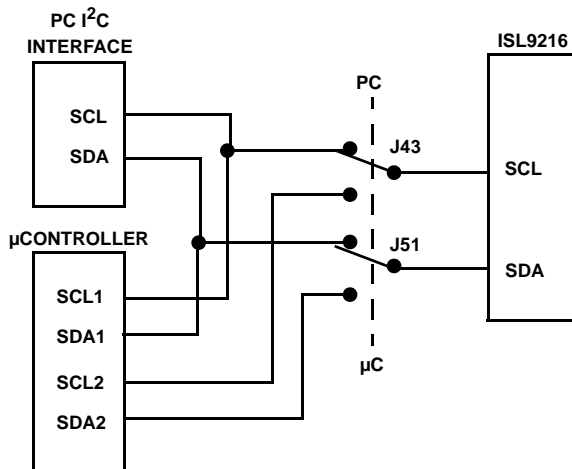

FIGURE 7. PC OR μC CONNECTION TO THE ISL9216
- For this test, make sure the SCL and SDA jumpers are set to the PC position. In this case, the PC has full control of the board and the microcontroller function is disabled. (See Figure 7). Except for the ISL9216 automatic response to overcurrent and over-temperature, all other actions of the board are manual and controlled through the GUI..